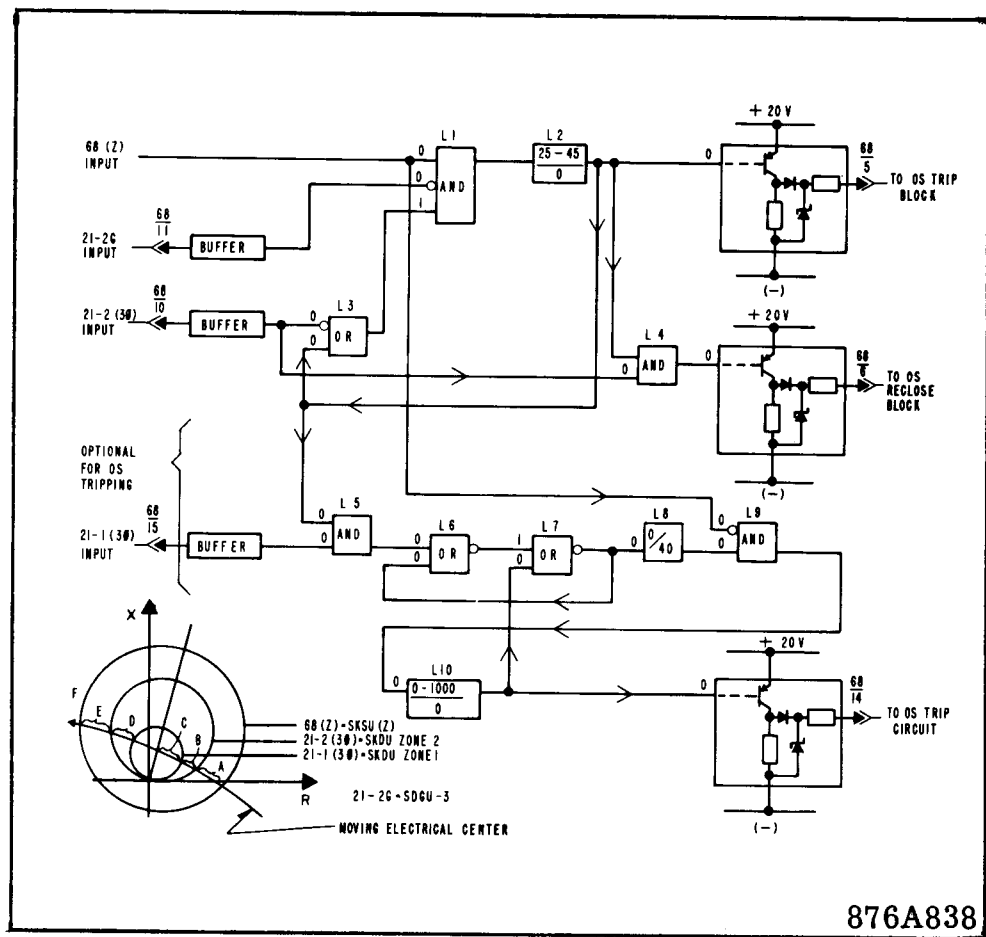

Fig. 6 Out-of-Step Logic
The out-of-step blocking logic receives three inputs, two of which are compared to the third on a time basis. Operation of this logic can be understood best when referring to the circle characteristics and moving electrical center illustrated in Figure 6.
The tripping of a breaker during a swing condition will impose an excessive voltage across the breaker contacts if the electrical center is close to the breaker location within the "C" zone of Figure 6. Therefore, it is not necessary to wait until the electrical center has passed through zone F and the swing voltages are more nearly in phase before tripping the breaker.
Referring to Figure 6 when 68(Z) operates it will block L9 to prevent tripping until the electrical center moves out of the 68(Z) characteristic and into zone F. In the meantime L5 receives a signal from L2, as described previously for a swing condition, and is subsequently switched when the electrical center enters zone C causing a signal to be received from 21-1 (3 ϕ). L5 switches L6 which switches L7 and is maintained by feedback from L7. L8 is a delayed dropout timer which is also switched on by L7 and continues to provide a signal to L9 for approximately 40 milliseconds after the L7 signal is removed. The circuit is now latched in by the feedback from L7 so that nothing happens when the 21-1 (3 ϕ) signal is removed by the swing moving out of zone C and into zones D and E. At the same time L9 is still blocked by the 68(Z) signal.